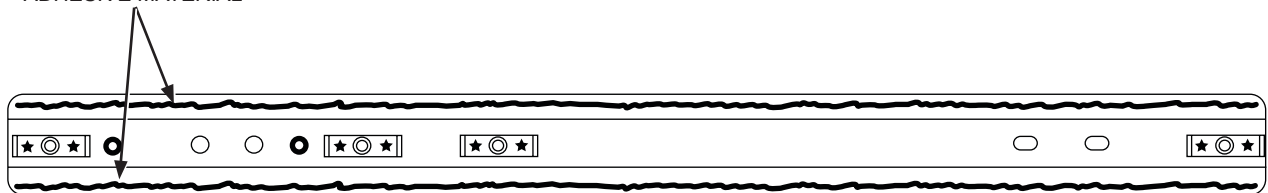

FIGURE 2
- Black stars represent the location of eight (8) blind rivets (W708777-S900C) between crossmember and reinforcement. (Refer to Figure 2).
- The adhesive material is between the cross member and the floor pan. (Refer to Figure 2).
- (Refer to Figure 2) for location for adhesive material.